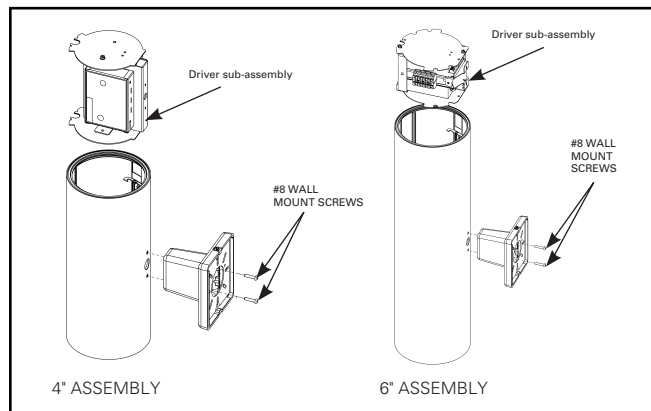

Figure 7.
1. Remove wall mount arm from fixture by removing (2) #8 screws
2. Remove internal driver subassembly from fixture. (Figure 7.)